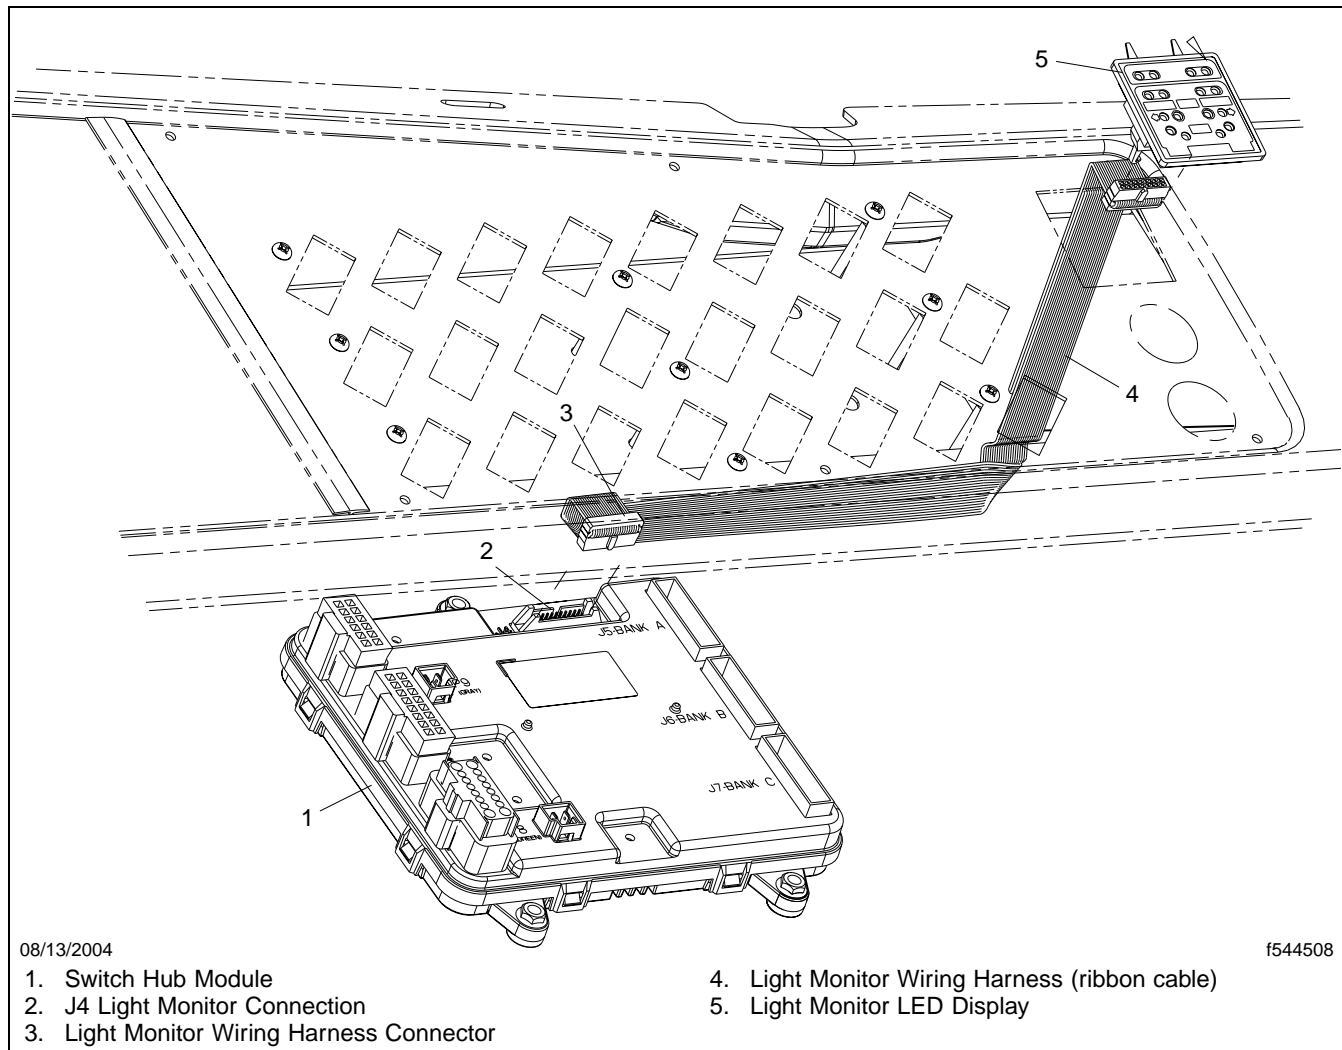

Fig. 3, Light Monitor Installation
3. Unplug the ribbon-cable harness from the back of the light monitor by gently pulling outward on the connector's side tabs to unlock the connector. See **Fig. 3**.